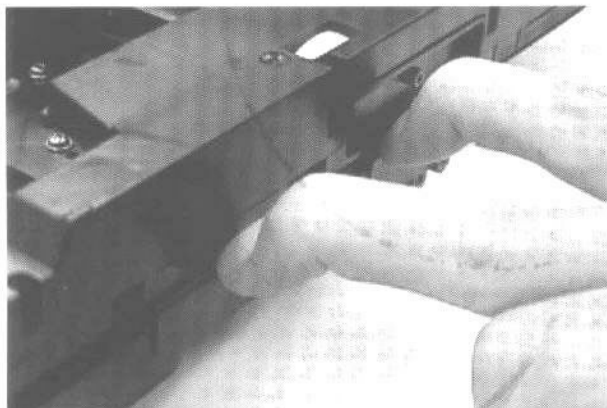
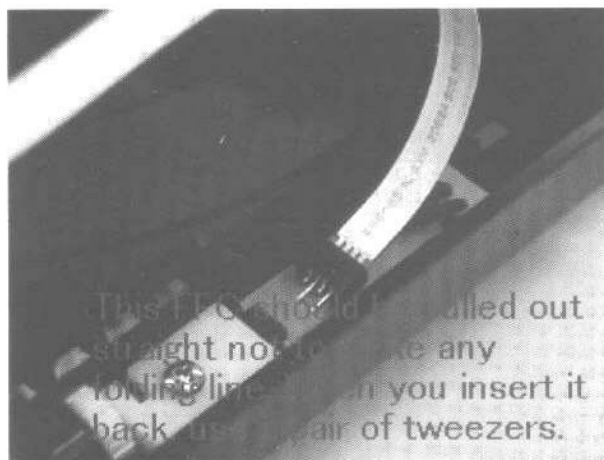

Fig.4
Fig.5
3) After pulling out DRAWER block until around its half, divide CHASSIS(1) block hooks which fixing DRAWER block from the two points of left side then the right two with a minus(-) shaped driver or fingers.(See Fig. 4)(Because gears gang together inside at the right side.) With holding DRAWER block upward, pull out FLEXIBLE FLAT CABLE, FFC(75) from ONNECTOR(73) on connector PC BOARD(70), straight to the insertion direction.(See Fig. 5)
- 1) Remove 6 SCREWS(115) from COVER(23).
- 2) Divide CHSSIS(1) block hooks which fixing DRAWER(2) block from the two points of left side then the right two with a minus(-) shaped driver or with fingers as like as below..(Because gears gang together inside at the right side.) With holding DRAWER block upward, pull out FFC(75) from CONNECTOR(73) on connector PC BOARD(70), straight to the insertion direction. (See Fig. 4, Fig. 5)